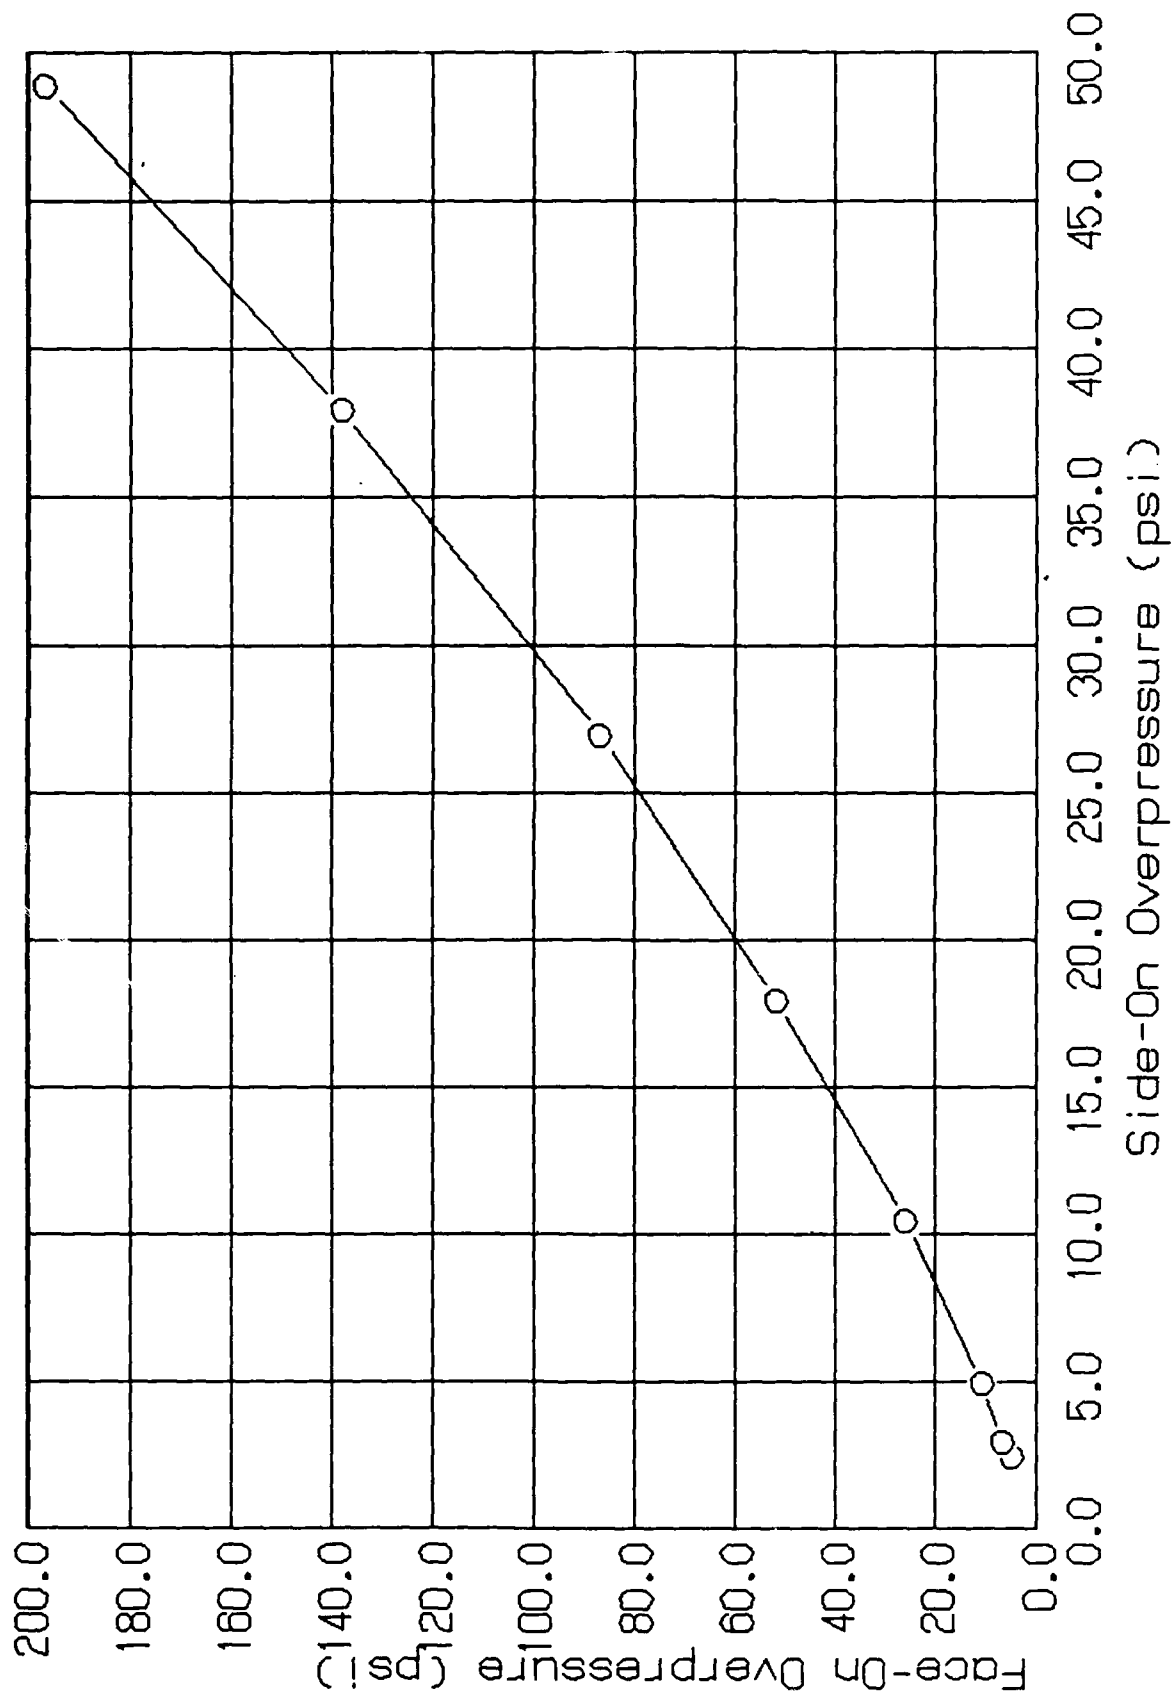

Figure 3. (U) CORRELATION CURVE A
- Figure 3. Correlation curve "A": Face-on overpressure (PSI) correlated with side-on overpressure (PSI) 7
2.11.1 Calibration Curve "A." Choose calibration curve "A" to determine face-on overpressure from observed side-on overpressure. It correlates face-on with side-on overpressure (Figure 3).